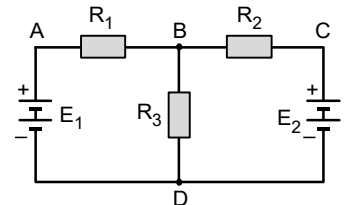

Fig.1.39: An electric network
- 6. Node :** A node is a point in the network where two or more circuit elements are joined. In fig.1.39, *A, B, C* and *D* are the nodes.
- 7. Junction :** A junction is a point in the network where three or more circuit elements are joined. In fact, it is a point where current is divided. In fig.1.39, *B* and *D* are junctions.
- 8. Branch :** The part of a network which lies between two junction points is called branch. In fig. 1.39. *D A B*, *B C D* and *B D* are the three branches.
- 9. Loop :** The closed path of a network is called a loop. In fig.1.39, *A B D A*, *B C D B* and *A B C D A* are the three loops.
- 10. Mesh :** The most elementary form of a loop which cannot be further divided is called a mesh. In fig.1.39, *A B D A* and *B C D B* are the two meshes but *A B C D A* is the loop.